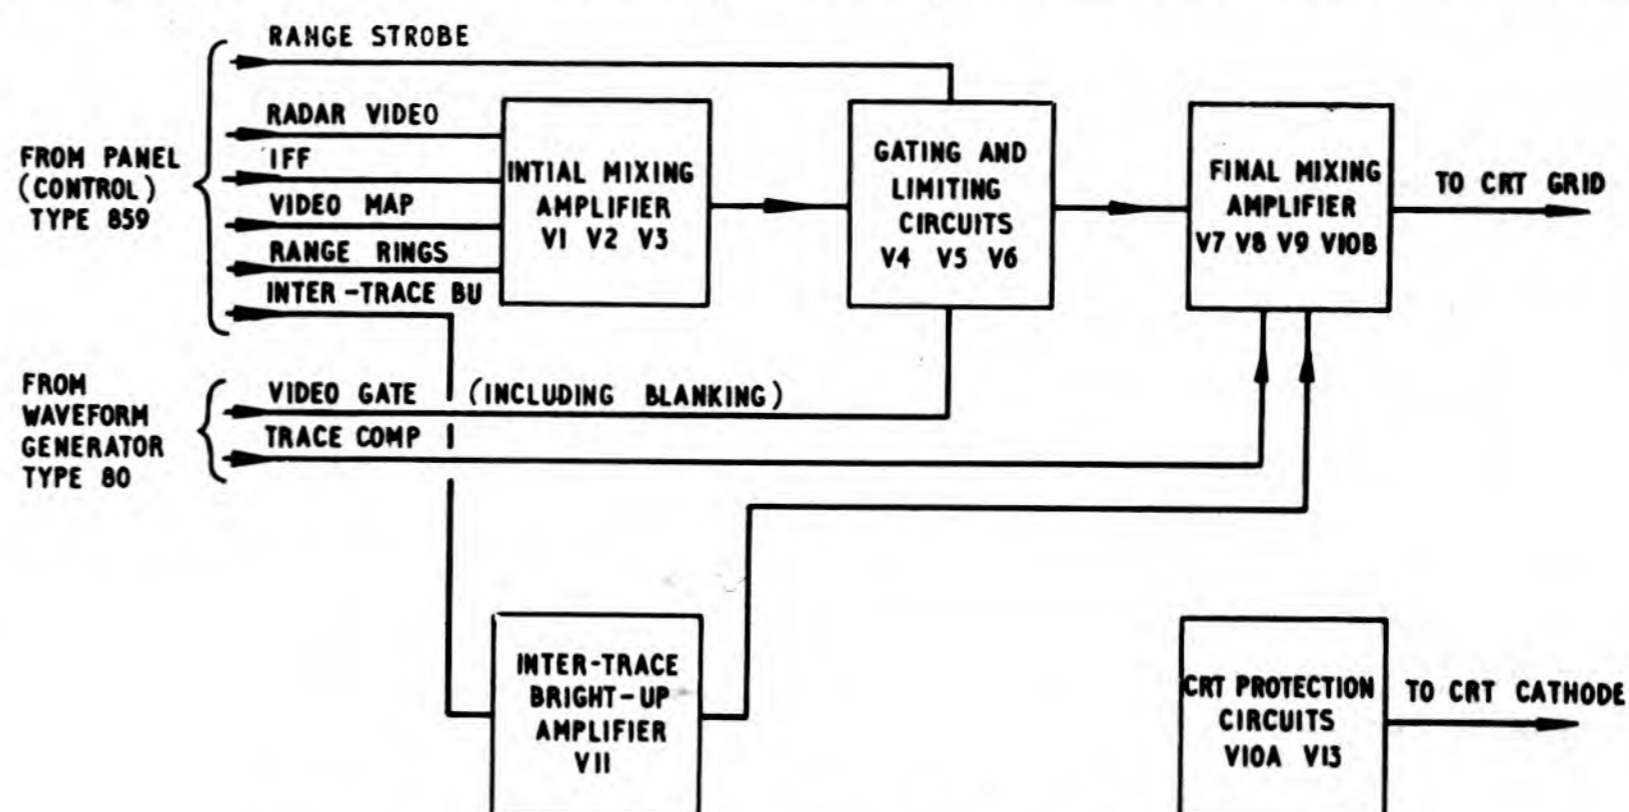

Fig. 3. Video amplifier Type 312—block diagram
7. Fig. 3 is a block diagram showing how the successive stages of the amplifier may be considered to fall into five main groups; these are explained in more detail in the paragraphs which follow. Simplified circuit diagrams are included where necessary for the purpose of circuit explanation; the complete circuit diagram is shown in fig. 13.